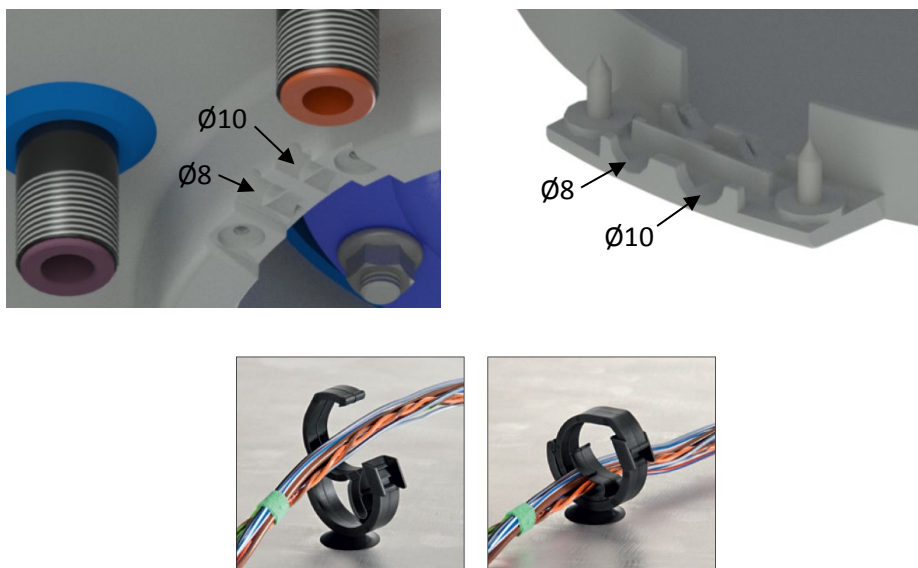
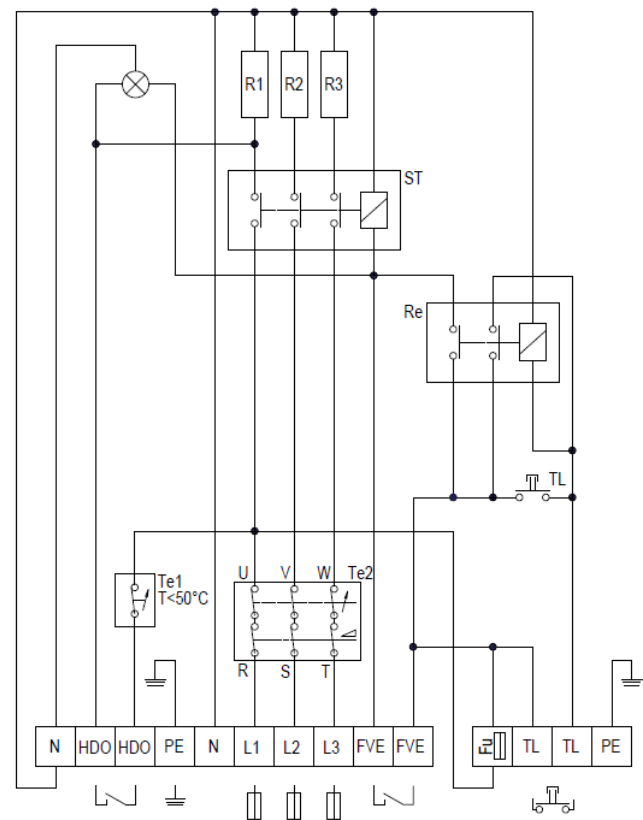

Figure 8
Figure 9
Execute the connection as indicated in the wiring diagram. Factory connection must not be changed! (Figure 9). In the electric wiring cabinet remove the partition corresponding with the input wire diameter of  $\varnothing 8$  or  $\varnothing 10$  (Figure 8). The degree of protection of electric parts of the heater is IP 44. Power input of electric element is  $3 \times 2000$  W. Use pre-installed brackets to hold the lead cable.
- The wiring diagram is also attached to the heater on the side of the electrical installation guard (Figure 9).